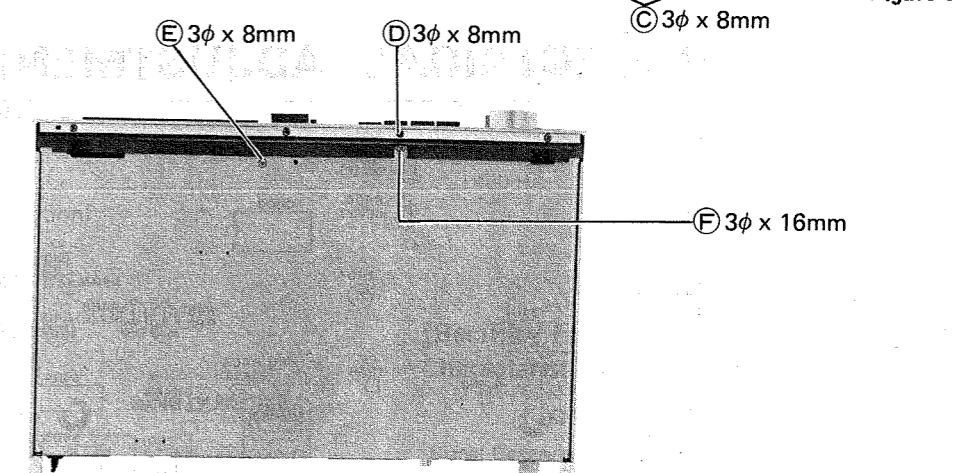

Figure 6
2. Remove two screw (E) (3φ x 8mm) and (F) (3φ x 16mm). (See Figure 6)
3. Remove two screws (E) (3φ x 8mm) and (F) (3φ x 16mm). (See Figure 6)
4. Remove one screw (D) (3φ x 8mm) then the front panel assembly can be removed from the unit. (See Figure 6)